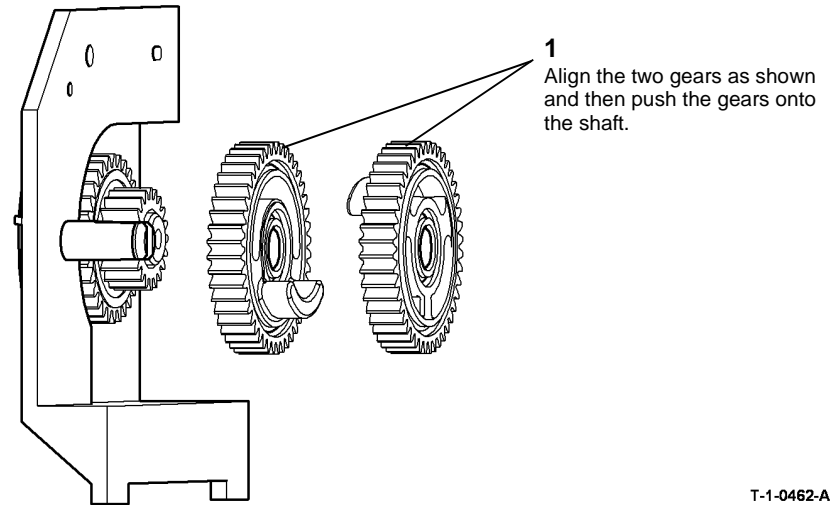

Figure 4 Gears installation
2. Ensure the gears are correctly aligned, Figure 4.